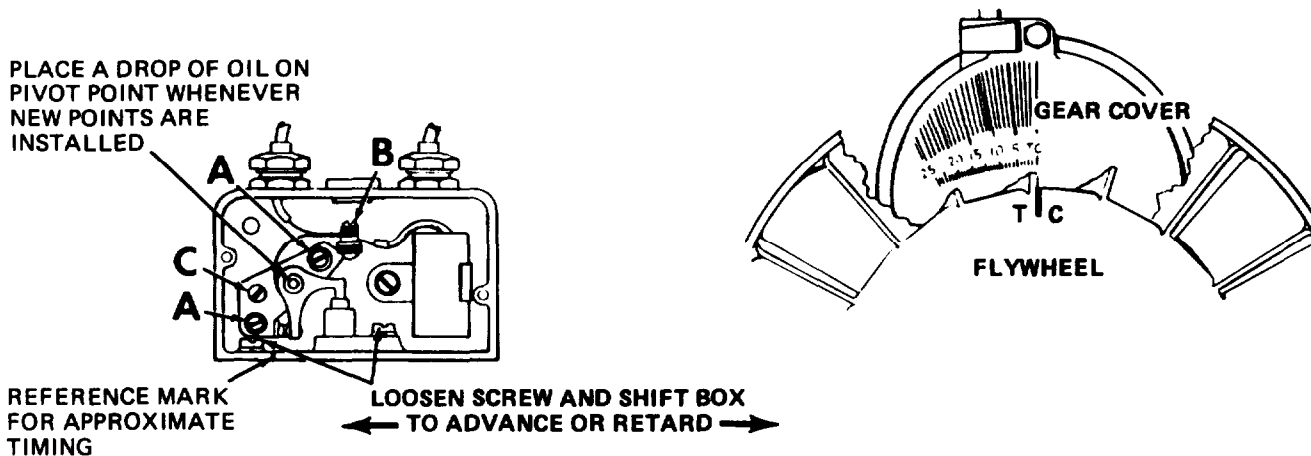

Figure 4-25. Ignition Timing (RGMD-K/1-10)
- (1) Using the left part of figure 4-25 as a guide, remove the two mounting screws (A) and pull the points out of the box just far enough so screw (B) can be removed. Replace points and condenser with a new set, but do not completely tighten mounting screws (A),
- (2) Rotate crankshaft clockwise (facing flywheel) until points are fully open. Turn screw (C) until point gap measures 0.020 inch (0.51 mm) with a flat thickness gage.
- (3) Tighten mounting screws (A) and recheck point gap. Place one drop of oil on breaker point pivot,
- (4) Proceed to Ignition Timing procedure which follows.
- d. Ignition Timing. Always check timing after replacing ignition points or if noticing poor engine performance. The timing marks will be visible through the flywheel. See figure 4-25 and proceed as follows.
- (1) To check the ignition timing accurately, use a timing light when the engine is running. Connect the timing light to spark plug according to its manufacturer's instructions. Either spark plug can be used as they fire simultaneously.
- (2) Place a white chalk or paint mark on the timing mark.
- (3) Start the engine and check the timing for 20° BTC to 24° BTC.
- (4) If timing needs adjustment, loosen the mounting screws on breaker box and move it left to advance or right to retard the timing.
- (5) Tighten the screws on the breaker box and recheck timing.
- (6) Replace breaker box cover and any other hardware removed.